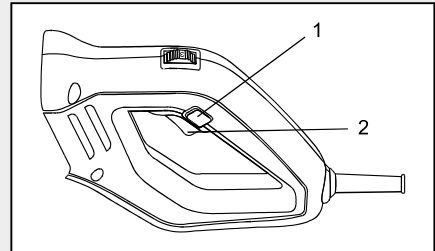

Fig. 3
To turn the saw ON, press inward on the lock-off button (1) (Fig. 3). While continuing to press on the lock-off button, squeeze the trigger switch (2) until the saw starts. Once the saw starts, the lock-off button can be released and the saw will remain running as long as the trigger switch is being squeezed.